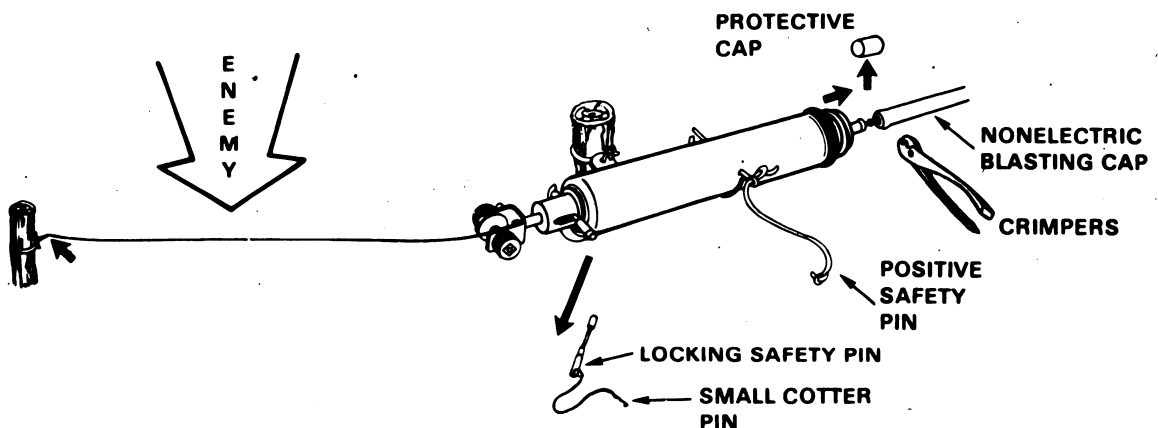

Figure 2
(1) Pull method. A pull of 6 to 10 pounds on taut wire will cause device to fire.
(2) Tension-release method. Release of tension (cutting of taut tripwire) will cause device to fire.
b. To install the M3 firing device (fig. 2).
(1) Remove protective cap.
(2) With crimpers, attach blasting cap to standard base. Crimper jaws should be placed no farther than one-fourth inch from open end of blasting cap.
(3) Attach firing device assembly to anchor (must be firm enough to withstand pull of at least 20 pounds).
(4) Secure one end of tripwire to anchor and place other end in hole in winch.
(5) With knurled knob, draw up tripwire until locking safety pin is pulled into wide portion of safety pin hole.